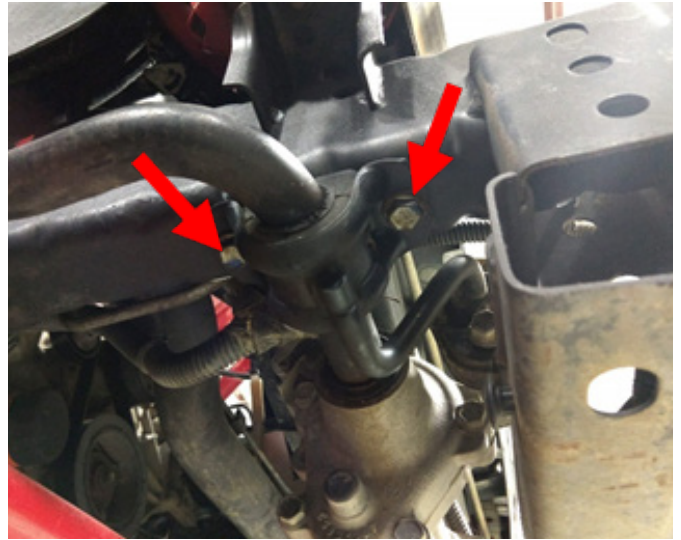

Figure 3
10. Using a 16mm socket wrench, loosen the four (4) bolts attaching the bar to the frame rails. (Figure 3)